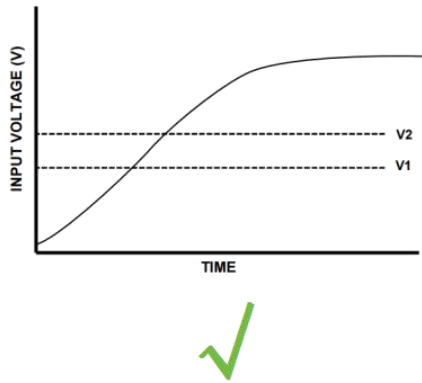
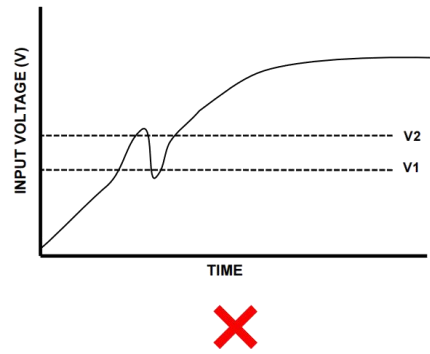

Figure 3-18 Monotonic power supply
Figure 3-19 Non-monotonic power supply
The iSMK and FD1X5 series drivers must use the monotonic power supply shown in Figure 3-18 when powering on. If the non-monotonic power supply shown in Figure 3-19 is used, when the deviation is close to any threshold voltage, the non-monotonic slope may cause problems such as abnormal start of the driver, resulting in an error failure.
- In figure 3-18 and figure 3-19, V1 indicates 10V voltage, and V2 indicates 17V voltage.